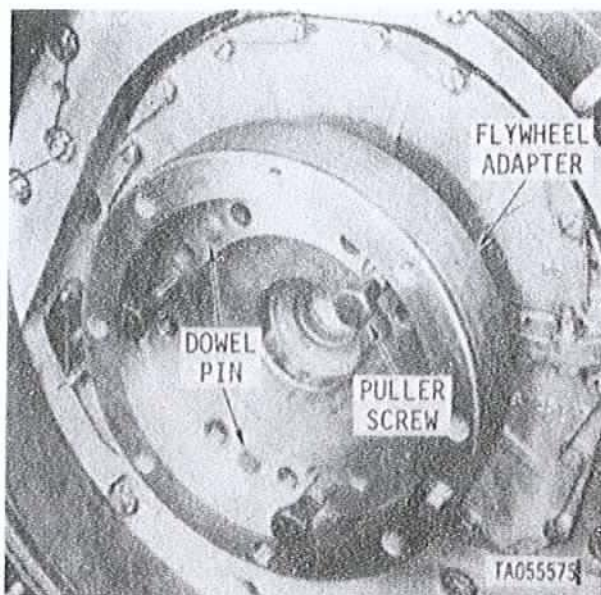

Figure 3-118.2. Removing flywheel adapter machine bolts and lock plates, model AVDS-1790-2DR engine.
c.2. Straighten tabs on three lock plates (fig. 3-118.2). Remove nine machine bolts and lock plates securing flywheel adapter to crankshaft. Discard lock plates.